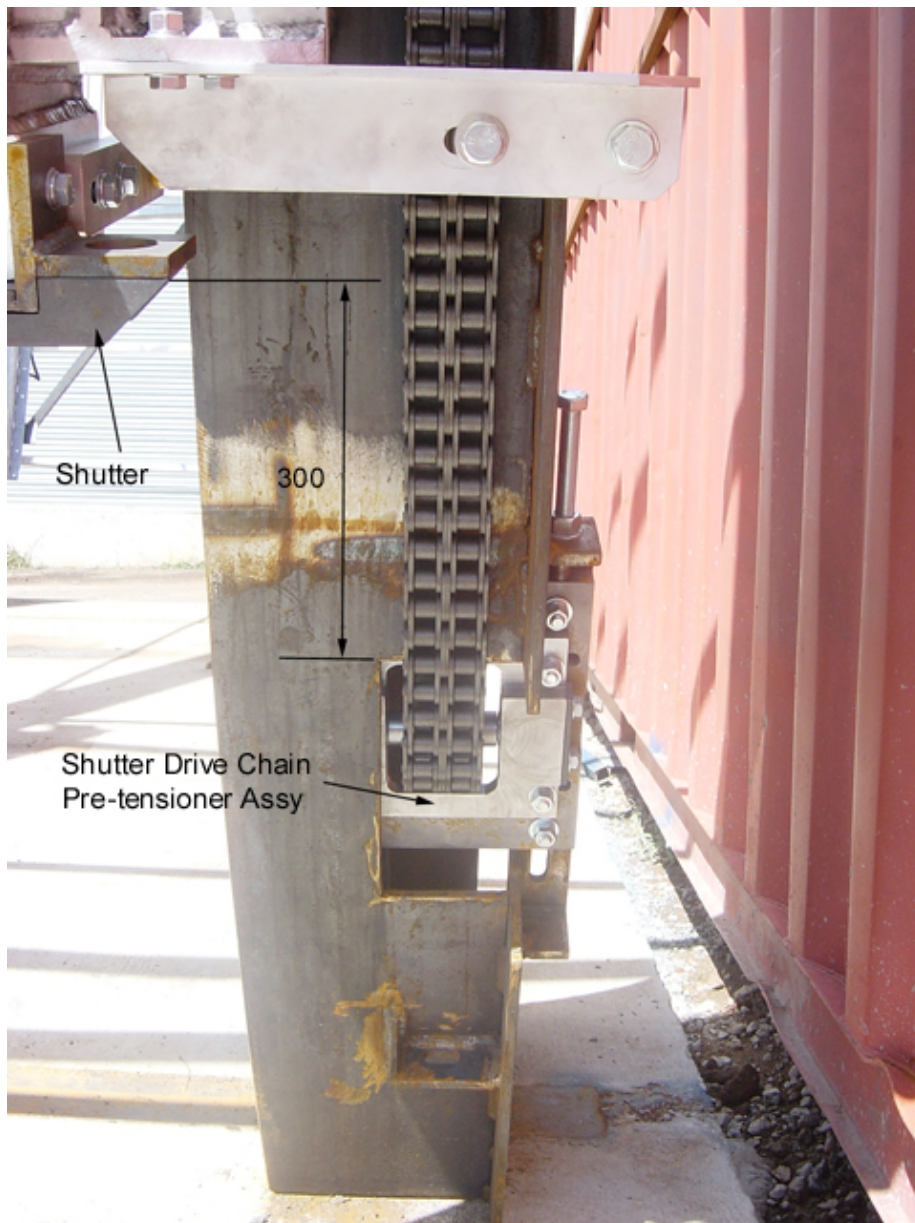
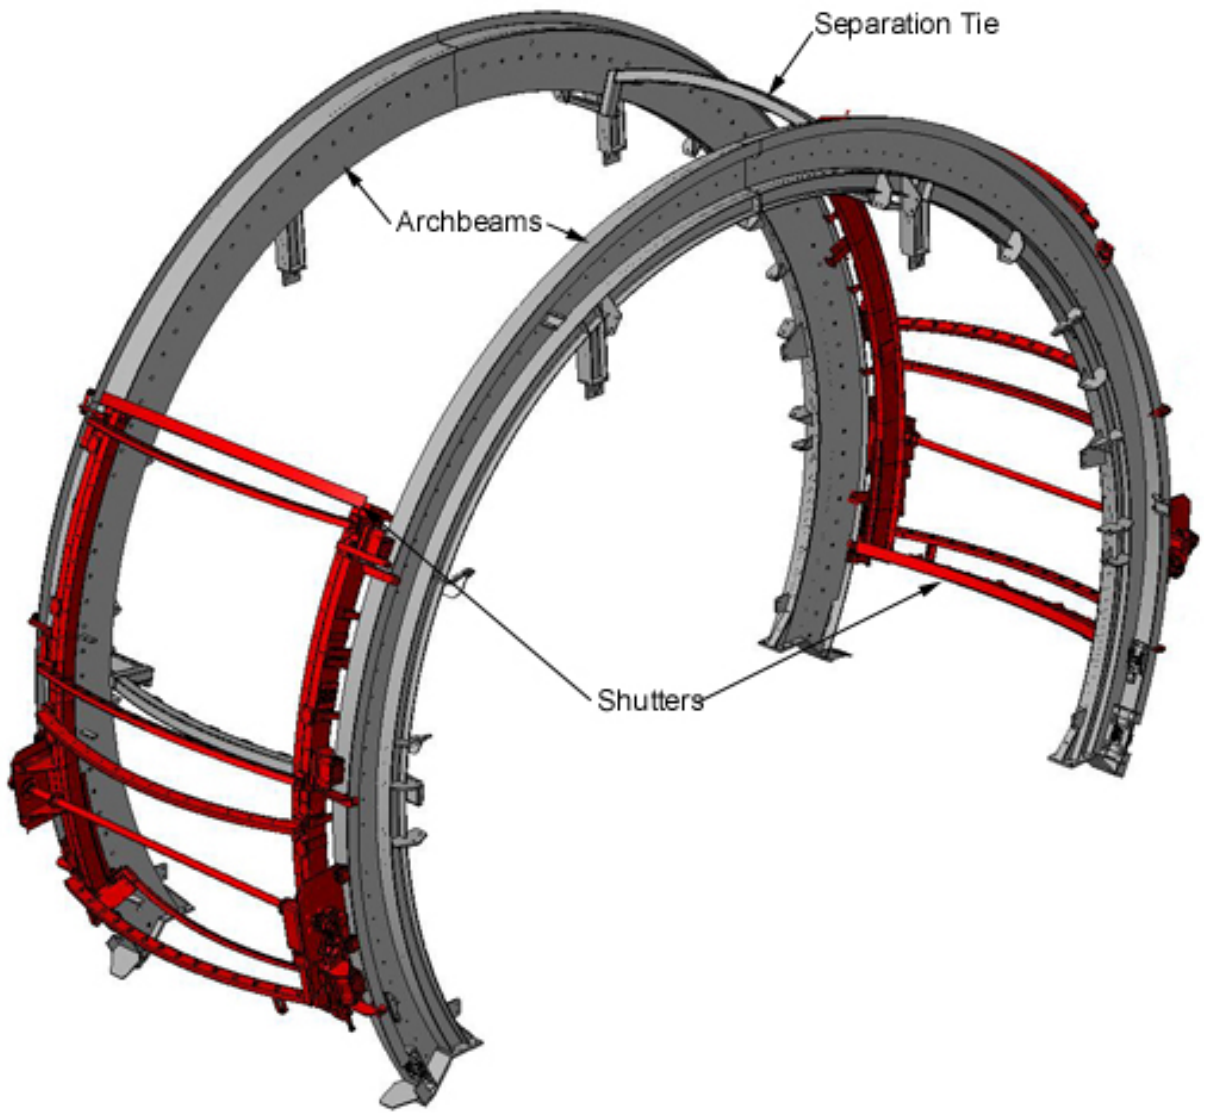

Figure 4.2
Figure 4.3
To begin the tensioning of the shutter chain, it is assumed that the Front Shutter (AD-07715) Rear Shutter (AD-07716), Shutter Drive Chain Pre-tensioner Assembly (AD-08062) and Load Cell Carrier Assembly (AD 500013) have been fitted to the Archbeams as shown in Figure 4.3.
- a) Ensure front and rear shutters are in the position shown in Figure 4.2, also see figure 4.3 for additional reference.
- b) Run shutters back to position shown in Figure 4.3.